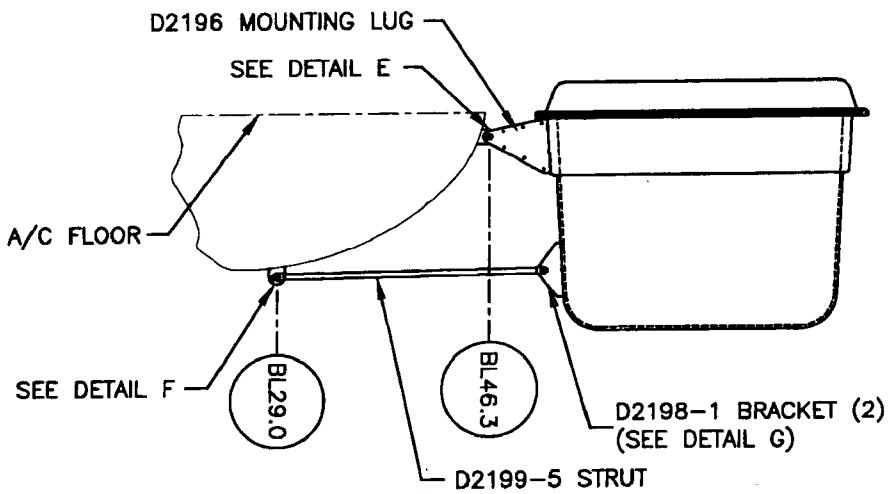

Figure 2 - Section A-A Looking Fwd at STA 84.29
3. Attach the Pod to the A/C hardpoints at STA 84.29, STA 129.00, STA 155.06 as shown in Figures 2, 3, and 4 respectively.